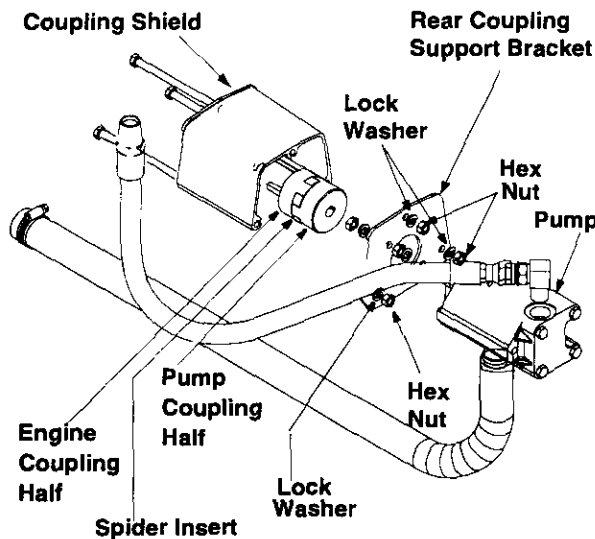

Figure 17
- Using a 1/2 inch wrench, remove three nuts and lock washers which secure the pump to the coupling shield. Two nuts are at the bottom corners and one is in the top center. See Figure 17. Remove the pump.
- **To replace engine coupling half:** Rotate the engine by pulling starter handle until engine coupling half set screw is at bottom. Loosen set screw using 1/8 inch allen wrench. Slide coupling half off engine shaft. See Figure 17.